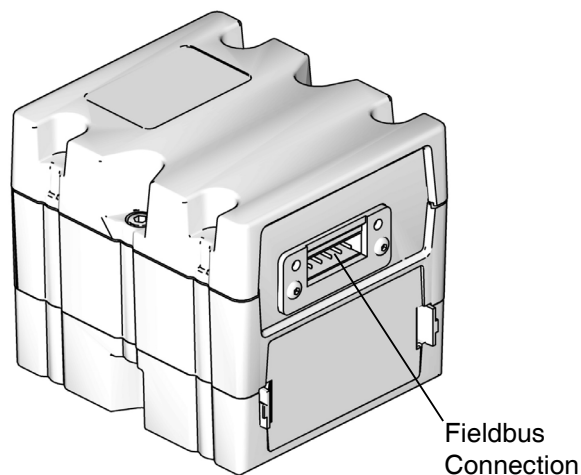

**FIG. 39: Driver Port Locations**
6. Using the four 10-32 mounting screws included with the kit, mount the base (CD) in the holes you drilled.
7. Reattach the CGM (CC) on the base (CD) with the two screws (CB) that were removed in step 5.
8. Reattach the access cover (CA).
9. Connect the CAN cable included in the kit to either port 1 or port 2 (whichever is available) on the driver. See FIG. 39.